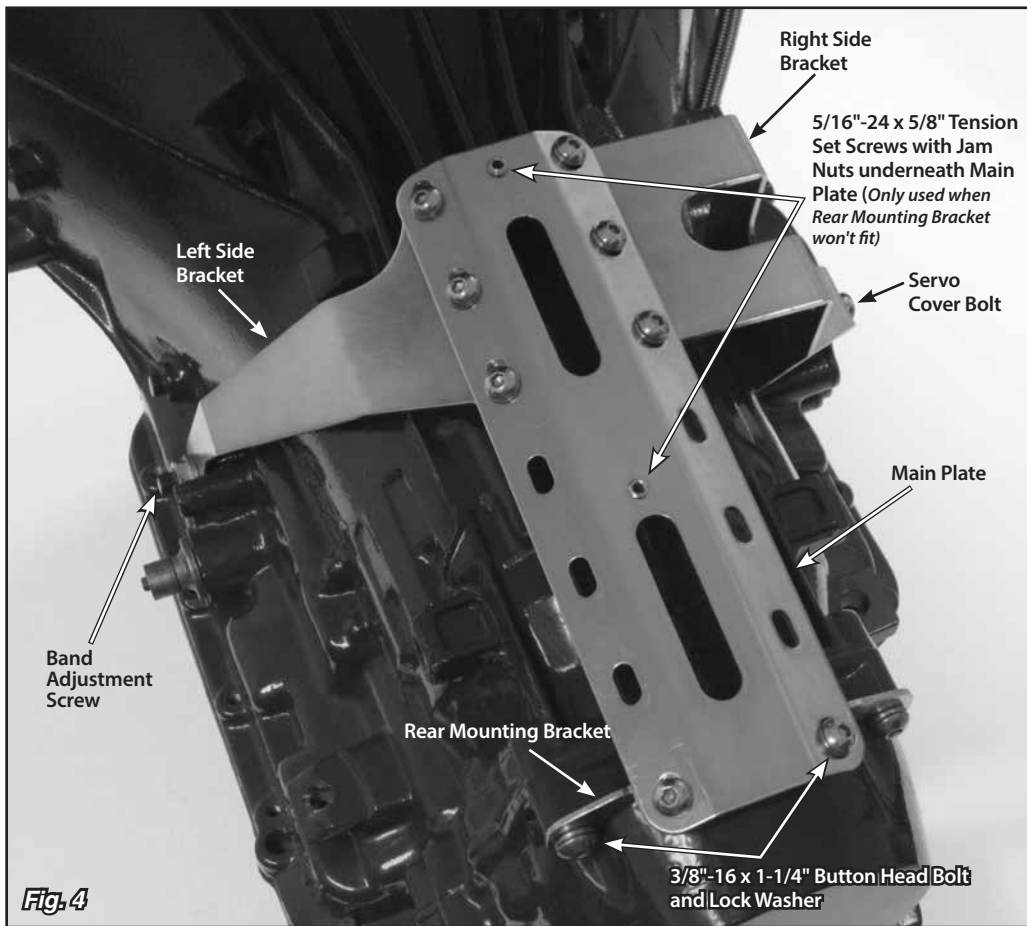

Fig. 4
**Step 6:** Place a small amount of silicone sealer around the band adjustment screw. Install the mounting bracket assembly onto the transmission by first placing the left side bracket over the band adjusting screw. Then, position the right side bracket over the servo cover bolt hole, and loosely install the servo cover bolt you removed earlier. Install the original lock nut back onto the band adjustment screw, but do not tighten yet. **Again, be sure that you do not change the adjustment!** **Fig. 4**
On 4 wheel drive applications without the rear mounting bracket, tighten the set screws in the main plate last (if you are using the rear mounting bracket you do not need set screws in the main plate). **Fig. 4** Then, tighten the jam nuts on the set screws underneath the main plate.